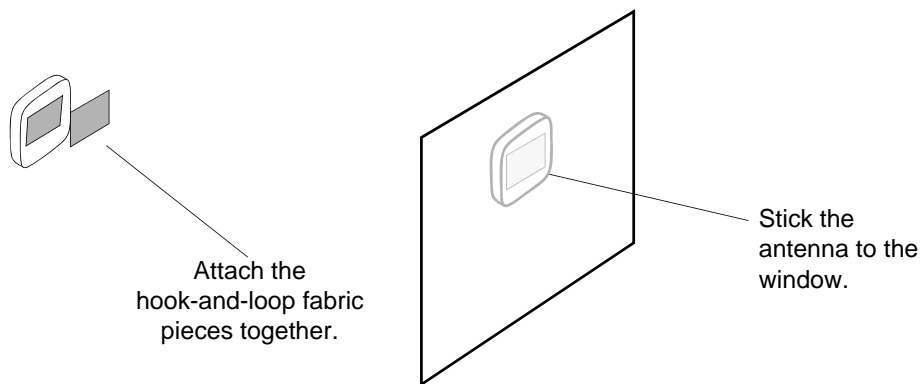

Figure 3-6. Attaching the Self-Adhesive Window Antenna to a Window
1.	Peel off the backing of one of the self-adhesive hook-and-loop strips and stick the strip to the antenna (Figure 3-6).